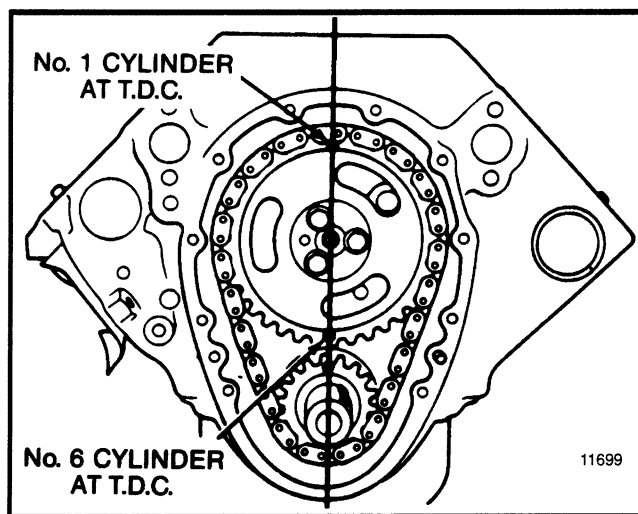

FIGURE 11. TIMING MARKS
Timing Sprockets, Installation (See FIGURE 11.)
1. Install the chain on the camshaft sprocket. Install the camshaft sprocket and the crankshaft sprocket. Make sure the marks are aligned as shown in FIGURE 11. Tighten the capscrews to the camshaft sprocket to 27 N.m (20 lb_f ft).